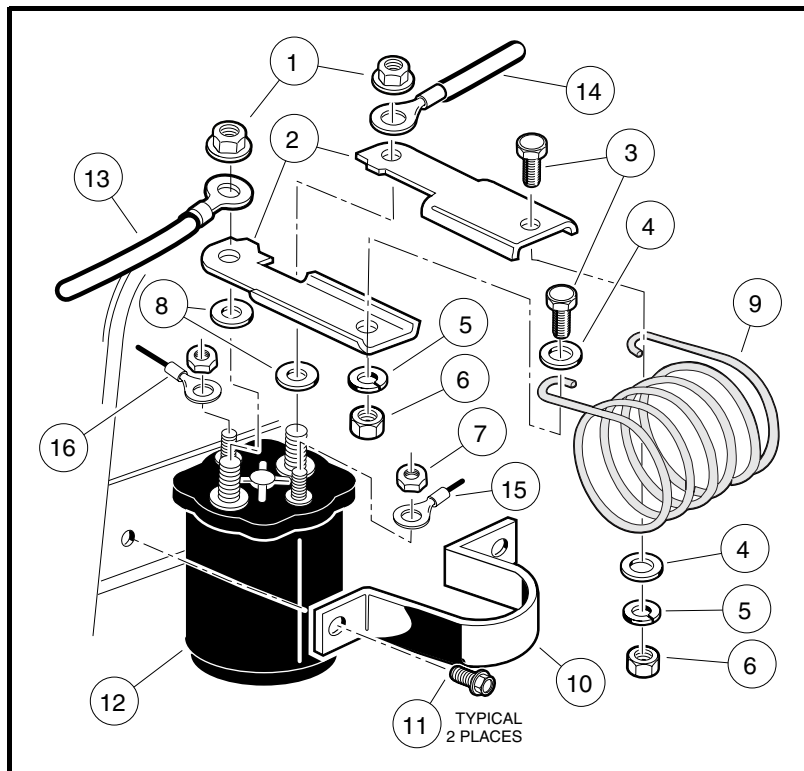

Figure 12-5 Dynamic Braking Solenoid
3. Disconnect all wires from the solenoid (12) (**Figure 12-5, Page 12-6**).
4. Loosen, but do not remove, one of the self tapping screws (11) that hold the solenoid mounting bracket (10) to the component mounting plate (**Figure 12-5, Page 12-6**).
5. Lift the solenoid (12) up and out of the mounting bracket (10) (**Figure 12-5, Page 12-6**).
1. Mount solenoid onto component mounting plate with mounting bracket (10) (**Figure 12-5, Page 12-6**).
2. Tighten thread rolling screws (11) to 60 in.lb (6.7 N-m) (**Figure 12-5, Page 12-6**).
3. Install washers (8), mounting tabs (2), wires (13, 14) and flanged lock nuts (1) onto large mounting posts. Tighten nuts to 60 in.lb (6.7 N-m) (**Figure 12-5, Page 12-6**). See Section 11, Figure 11-1, Page 11-2 for correct wire destinations.
4. Install wires (15, 16) and nuts (7) onto small mounting posts. Tighten nuts to 18 in.lb (2.0 N-m) (**Figure 12-5, Page 12-6**).